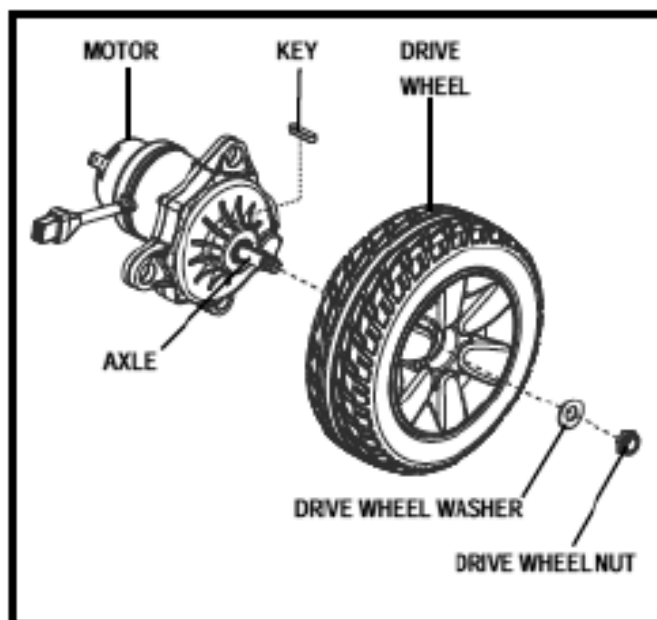

Figure 21. Jazzy Elite ES Drive Wheel Removal
4. Remove the drive wheel nut and washer from the axle. See figure 21.
8. Reinstall the drive wheel nut and washer onto the axle and tighten. See figure 21.